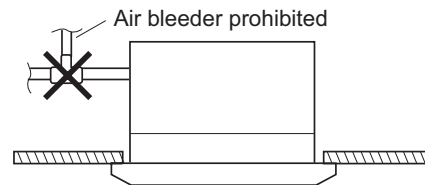

Fig. 2-59
- Do not install an air bleeder as this may cause water to spray from the drain pipe outlet. (Fig. 2-59)